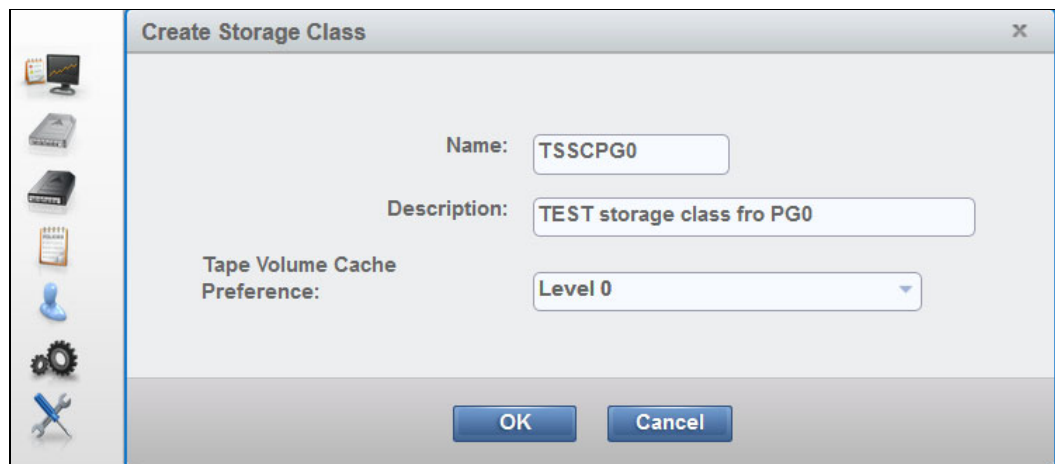

Figure I-5 Define Storage Class for TEST
1. Define an SC for TEST named TSSCPG0. This is an SC for volumes unlikely to be used (level 0 or PG0), as shown in Figure I-5. The other SCs must be defined in a similar way. Ensure that Tape Volume Cache Preference is set according to the defined SC name.